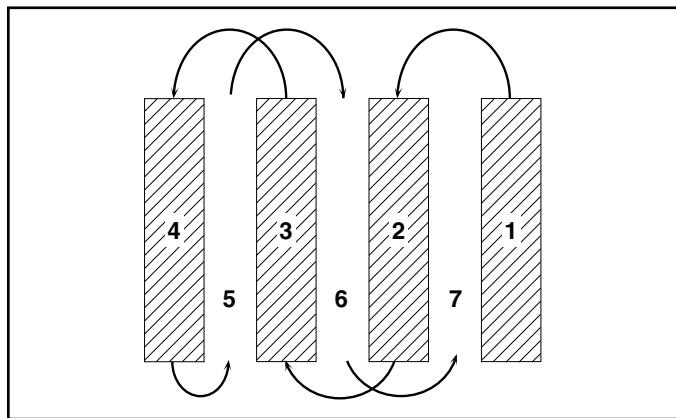

FIG. 14
- You will find tilling much easier if you leave a row un-tilled between passes. Then go back between tilled rows. (See Fig. 14) There are two reasons for doing this. First, wide turns are much easier to negotiate than about-faces. Second, the tiller won't be pulling itself, and you, toward the row next to it.